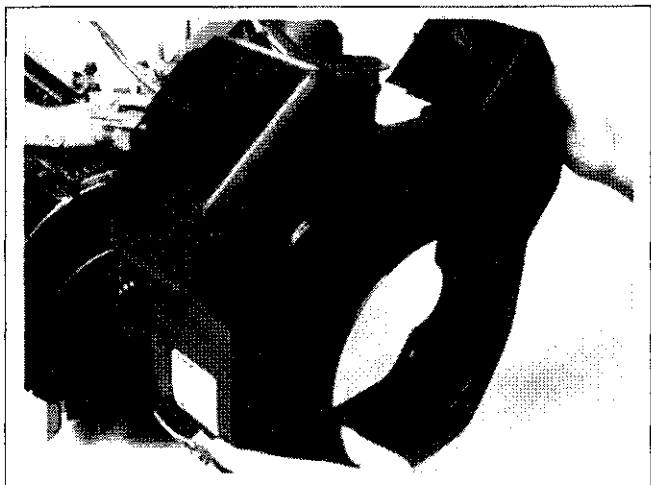

Figure 11-54. Reinstalling Blower Housing.
3. Slide blower housing into position over front edge of inner baffles. See Figure 11-54.